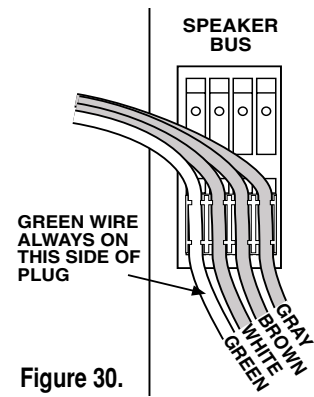

Figure 30.
- Be careful to maintain correct polarity as shown in Figure 30.